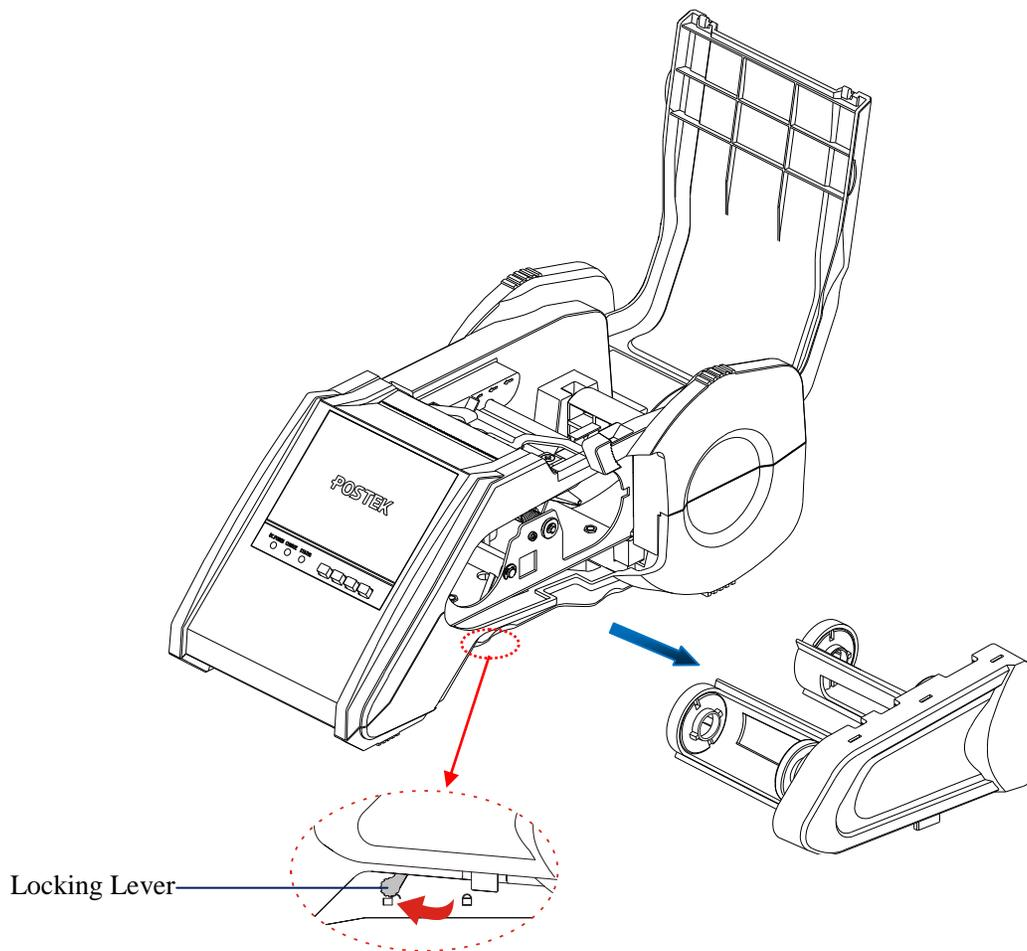

Figure 2-6
2. Remove the Ribbon Cartridge from the printer by sliding it out (Figure 2-6).